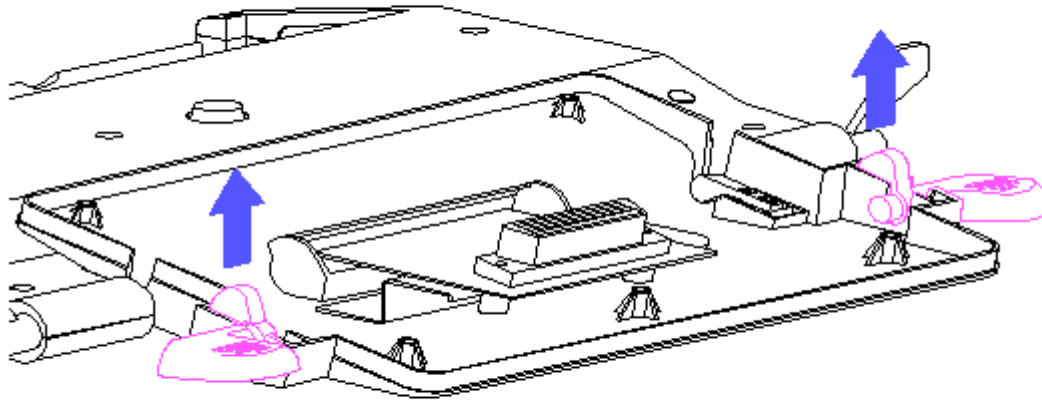

Figure 4-6. Removal and Replacement of Eject Levers
3. Remove and replace the eject levers as shown in Figure 4-6.